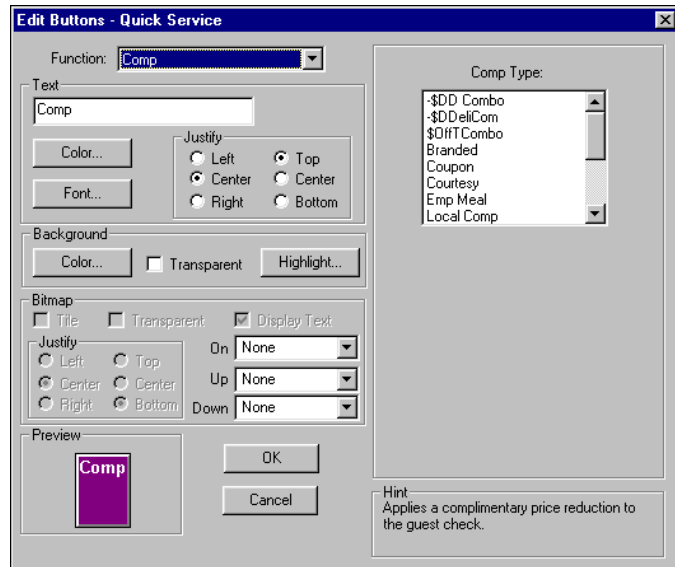

Figure 5-81 Comp Dialog Box
1. Select **Comp** from the **Function** drop-down list. An additional option displays, as shown in Figure 5-81: